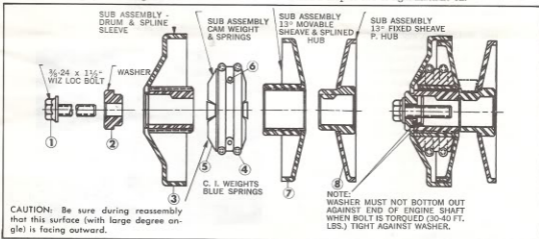

Figure 8
The Torque Converter is pre-lubricated at the factory and should not require additional lubrication for at least forty hours. At this time it is advisable to disassemble the drive unit, check it for damage and worn parts, and reassemble as per instructions. (Fig. 8)
2. Slip the assembly off the crankshaft (No's 2 through 5) (Fig. 8).
6. Reassemble according to Fig. 8.